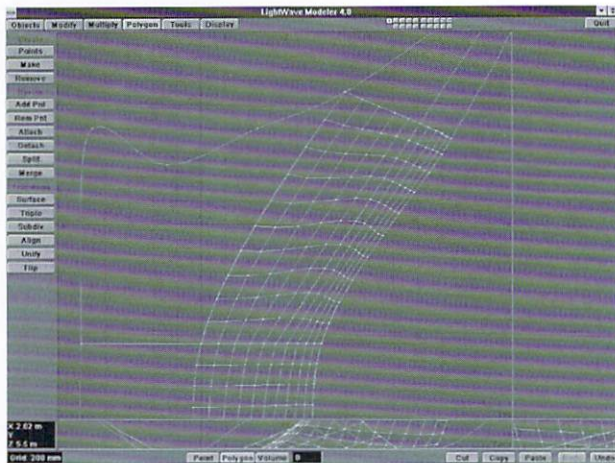
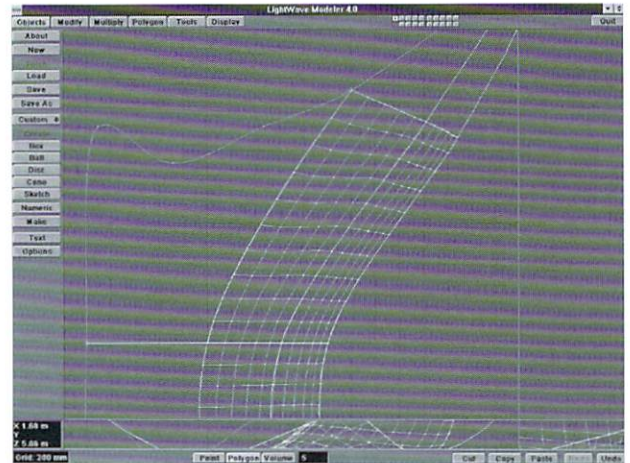

Figure 4: All sections patched. Notice that the polygons share points along all adjacent edges.
Figure 5: A better way to apply the same patching orders. Notice the entire patched section flows much nicer than in Figure 4.
One problem that you may encounter while performing a patch operation of this type is acquiring sections in your object with dissimilar curves. In the case of this splint, not running the thumb curve down the length of the splint created polygons like those in Figure 4. The problem is that we have lost the continuous defined shape by dead-ending the thumb curve. You can, however, run the curve down the length of the splint as outlined in the article and still follow the above procedures to make free-flowing shapes. Just because a curve is in an object doesn’t mean that you have to use it to patch—it can be there just to help define the surrounding curves. Figure 5 shows the results of patching this way. Notice the smoother-flowing polygons.
- Deselect all curves and patch the large adjoining area below the two sections, using 10 for both **Perpendicular** and **Parallel** values. Figure 4 shows all three patch sections.